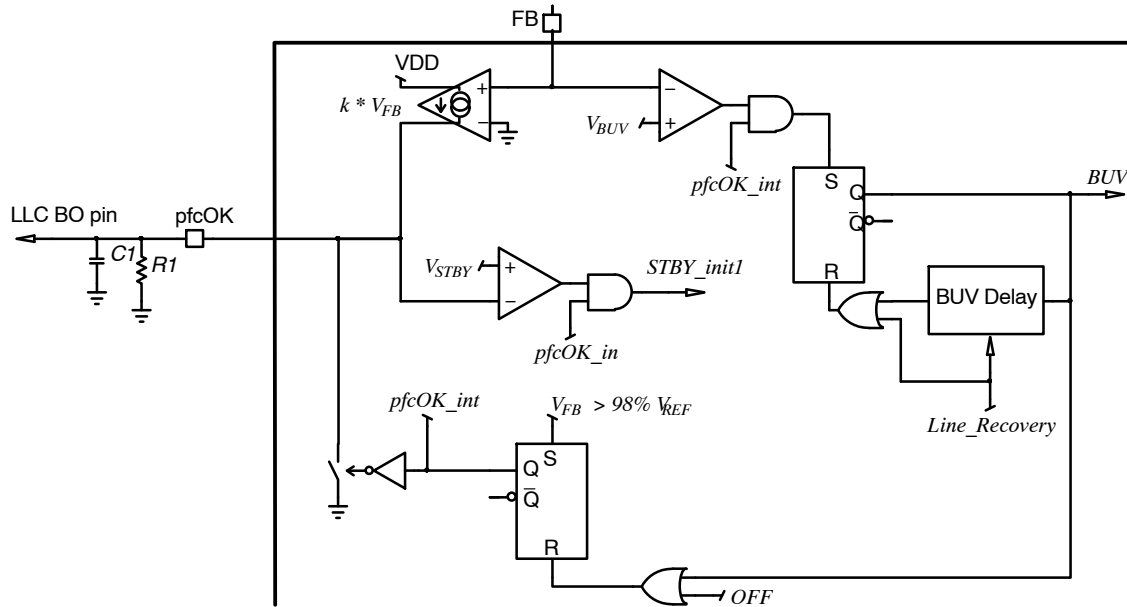

Figure 17. *pfcOK* Block
Practically, the *pfcOK* pin is grounded when the PFC stage enters operation and remains in low state until the output voltage has nearly reached its nominal level (practically when  $V_{FB}$  reaches 98%  $V_{REF}$ ). At that moment, the *pfcOK* pin sources a current proportional to the feedback voltage ( $k \cdot V_{FB}$ ). See Figure 17. Placing an external resistor between the *pfcOK* and GND pins, we obtain a voltage  $V_{pfcOK}$  which is proportional to the bulk voltage and can serve as a feedforward signal for the downstream converter.  $k$  typical value is 10  $\mu\text{A/V}$  so that the *pfcOK* pin typically sources 25  $\mu\text{A}$  when the FB voltage is 2.5 V (regulation level).
The high voltage (HV) pin is a multi-functional pin, which in addition to the startup current source, provides access to the brownout, line sag, line range detectors and X2 capacitor discharge. The brownout / line-sag detector detects too low line levels and the line range detector determines the presence of either 110 V or 220 V ac mains. Depending on the detected input voltage range, the NCP1618 internally adjusts device parameters to optimize the system performance. Line and neutral are diode “ORed” before connecting to the HV pin as shown in Figure 17. The diodes prevent the pin voltage from going below ground.
- Resets the BUV timer. It is because a long line-sag event is likely to cause a BUV detection. When a BUV fault is detected, no restart is possible until the BUV timer has elapsed. If a BUV fault is detected during a line-sag sequence, we want operation to be resumed as soon as the line recovers (see Figure 17).